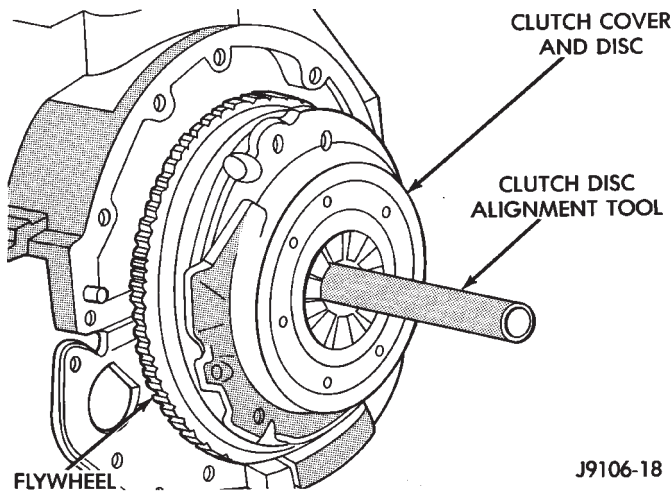

Fig. 3 Typical Method Of Aligning Clutch Disc
(6) Insert clutch alignment tool in clutch disc (Fig. 3).
(8) Position clutch cover over disc and on flywheel (Fig. 3).
(9) Install clutch cover bolts finger tight.
(10) Tighten cover bolts evenly and in rotation a few threads at a time. **Cover bolts must be tightened evenly and to specified torque to avoid distorting cover. Tightening torques are 31 N-m**